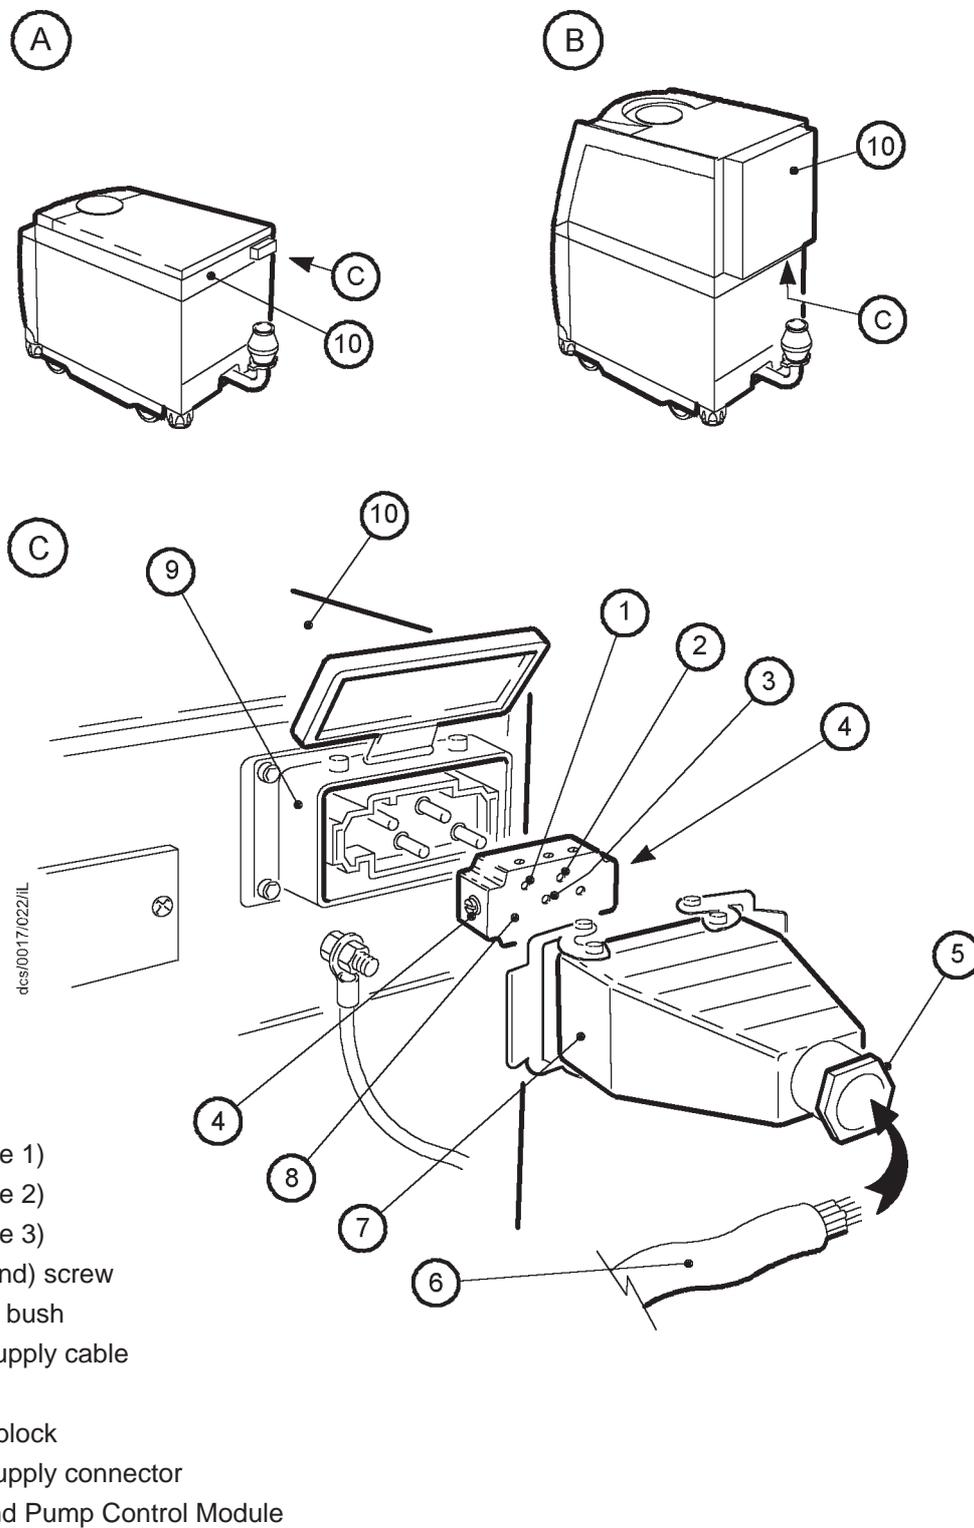

Figure 3-10 - Connect the electrical supply cable to the connector mating-half
1. Refer to Figure 3-10. Remove the connector block (8) from the cover (7) of the mating-half supplied for the electrical supply connector, then pass a suitable four-core cable (6) through the strain relief bush (5) on the cover. Refer to Section 2 for suitable cable sizes.
2. Connect the cable phase wires to the pins in the connector block (8) as shown in Table 3-4.
3. Connect the earth (ground) wire of the cable to one of the two earth (ground) screws (4) on the side of the connector block (8).
4. Refit the cover (7) to the connector block (8) and tighten the strain relief bush (5).
5. Fit the mating-half to the electrical supply connector (9) on the Electrics and Pump Control Module.
6. Connect the other end of the electrical supply cable (6) to your electrical supply through a suitable isolator.
Wire	Pin number (Figure 3-10 key)